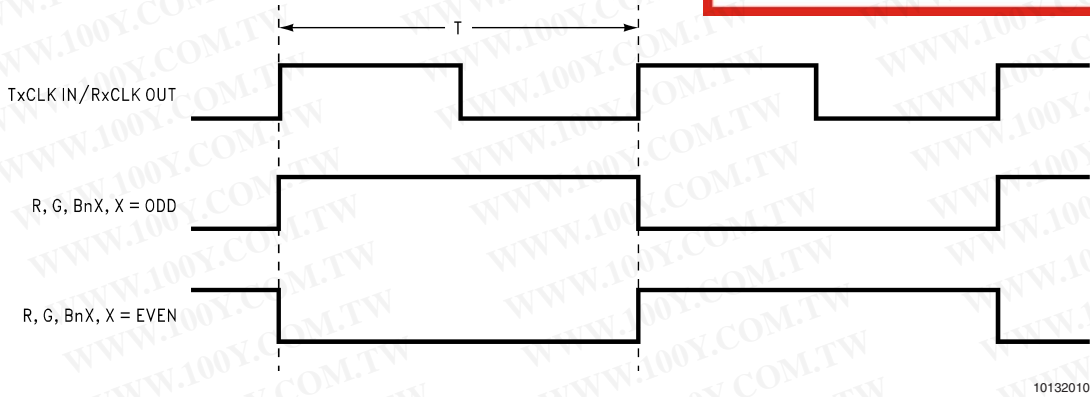

FIGURE 1. "Worst Case" Test Pattern
**Note 9:** Figures 1, 2 show a falling edge data strobe (TxCLK IN/RxCLK OUT).